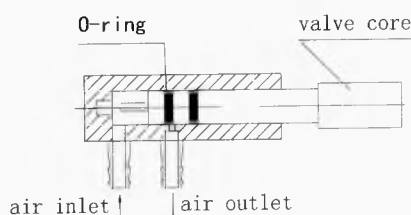

Figure 5-3 Holder Valve
(2). Loosen setscrew, take out the holder valve, remove the valve core and check the O-ring as shown in diagram 15. (Figure5-3).